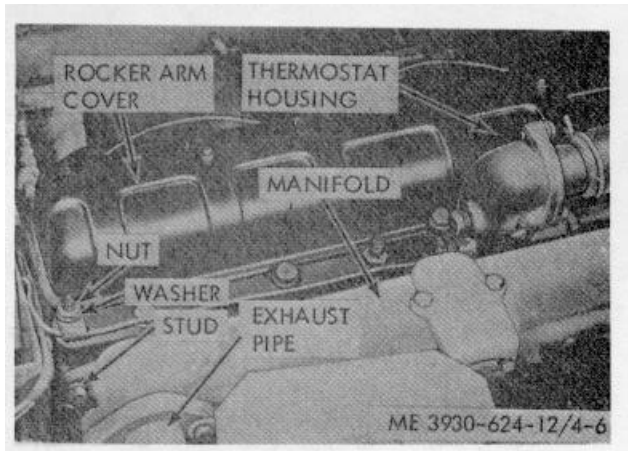

Figure 4-6. Manifold mounting
(1) Remove carburetor from the manifold (para 4-19).
(2) Remove the self-locking bolts and washers which secure the exhaust pipe to the exhaust manifold flange.
(3) Disconnect the fitting which secures the positive crankcase ventilation valve to the bottom of the manifold.
(4) Remove the self-locking nuts and washers which connect the manifold to the cylinder head and lift the manifold off the studs (fig. 4-6).
(5) Remove the gaskets from manifold ports.